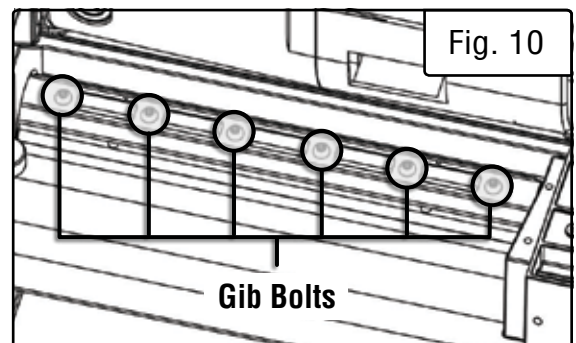

Fig. 10
4. Use the star wrench to loosen the 6 mounting bolts about 4 - 5 turns (Fig. 10). Do not remove the bolts from the gib.